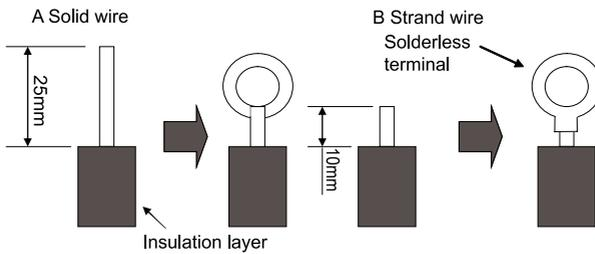

Fig.38
(1). For solid core wiring (Fig.38)
(2). For strand wiring (Fig.38)